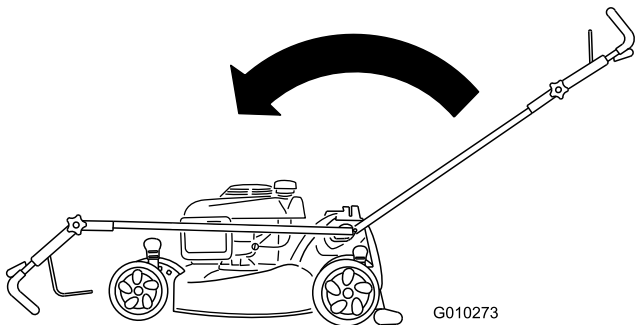

**Figure 49**
3. With the engine running and the blade engaged, spray a stream of water in front of the right rear wheel (Figure 49).
2. Move the handle to the upright position (Figure 49).